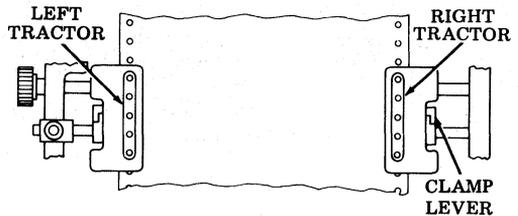

Fig. 60—Right Tractor Positioning
- (1) Lift clamp on the right tractor assembly.
- (2) Position the right tractor to align tractor pins in paper feed holes.
- (3) Close right tractor lid and close clamp lever (Fig. 60).